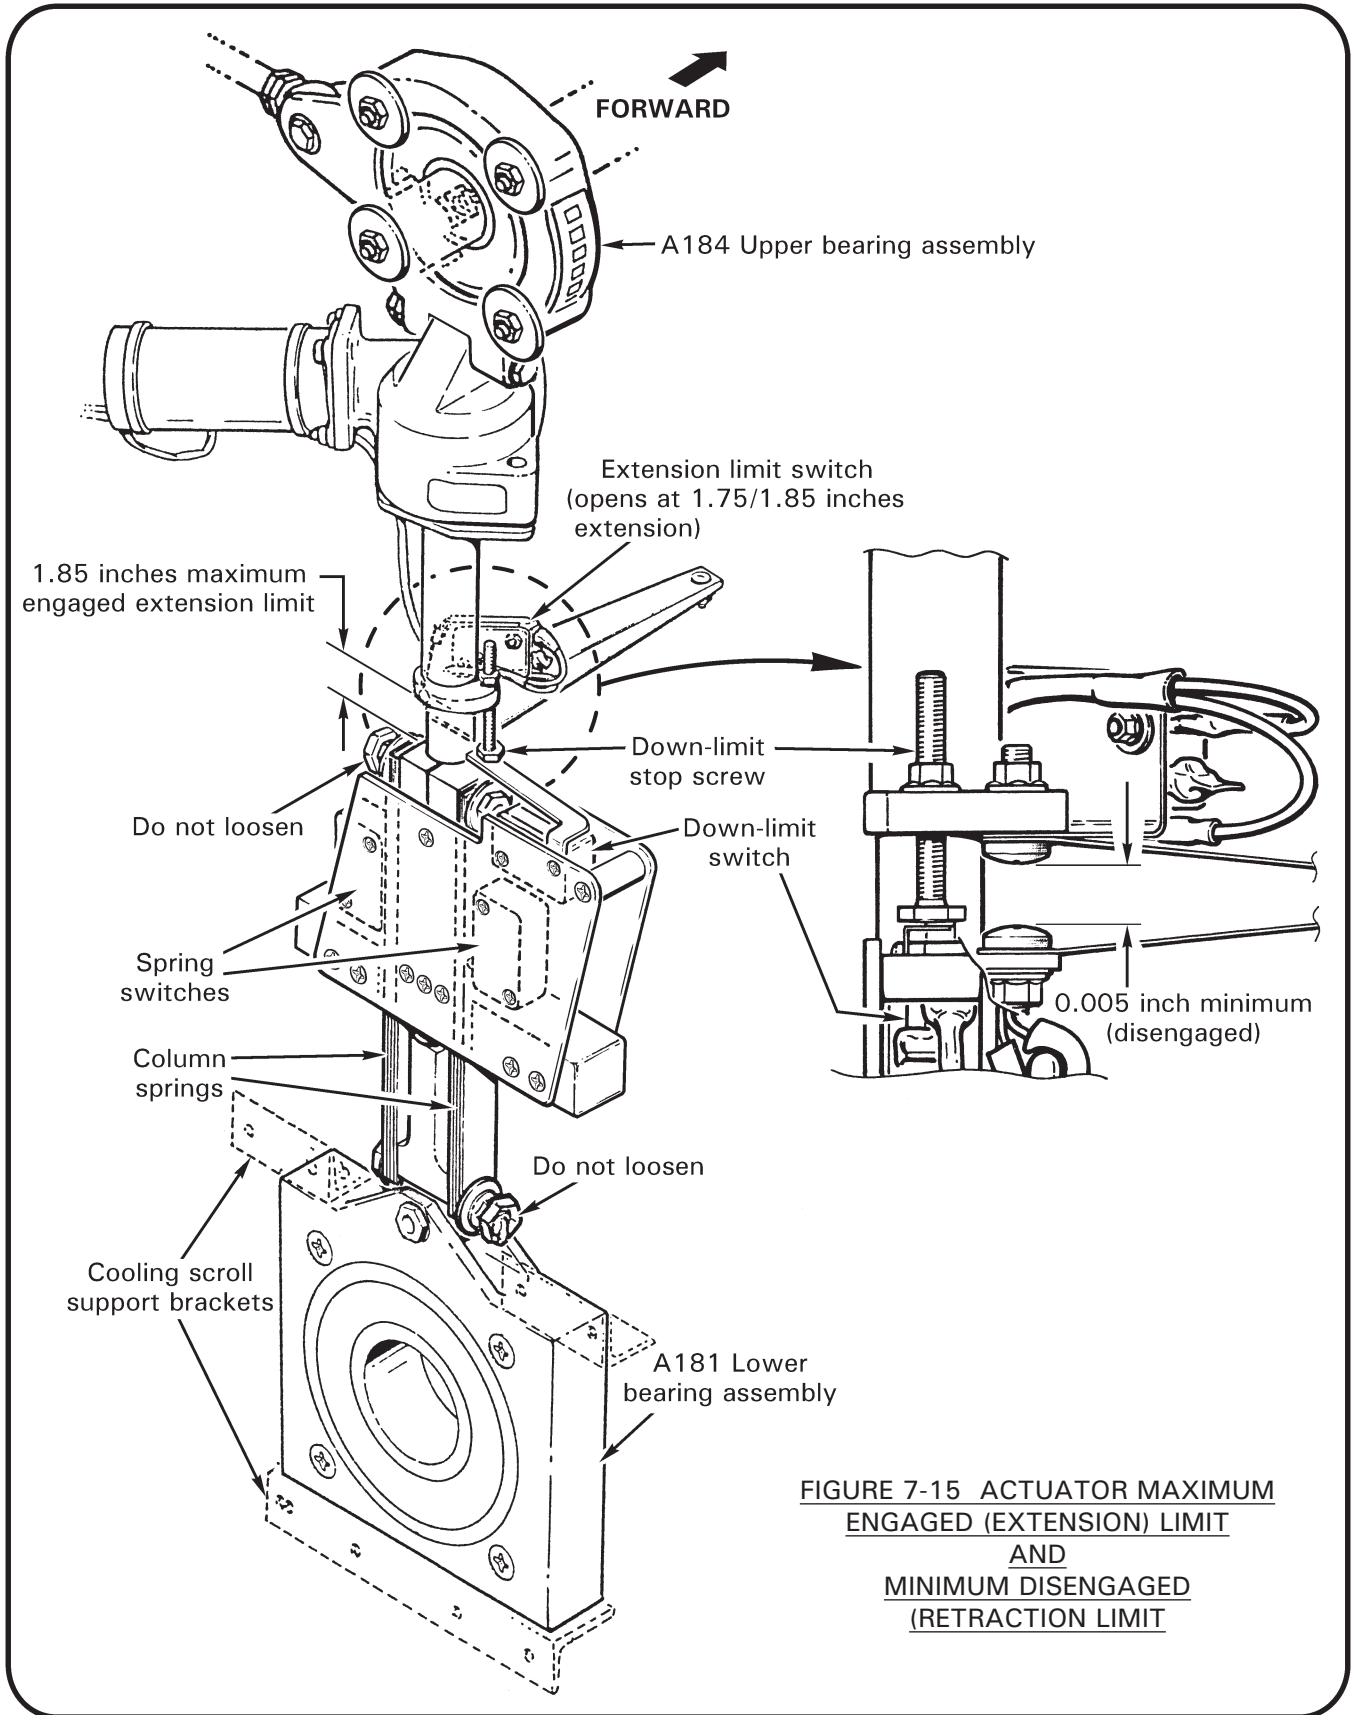

FIGURE 7-15 ACTUATOR MAXIMUM ENGAGED (EXTENSION) LIMIT AND MINIMUM DISENGAGED (RETRACTION) LIMIT
2. Disengaged Down-Limit Adjustment (see Figure 7-15)
3. Maximum Extension (see Figure 7-15)